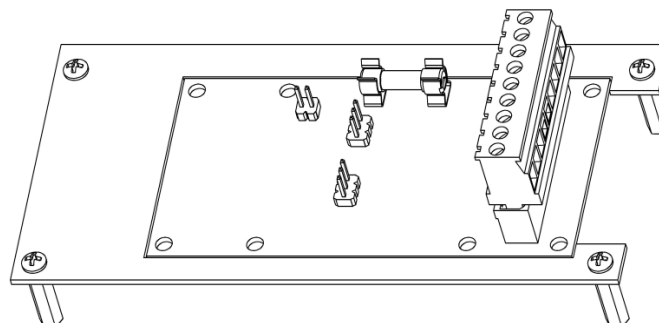

Figure 3-2 – Module mounting onto a standard relay expansion slot
2. Remove the module from the adapter plate and mount PCB onto a standard relay expansion slot as shown in Figure 3-2